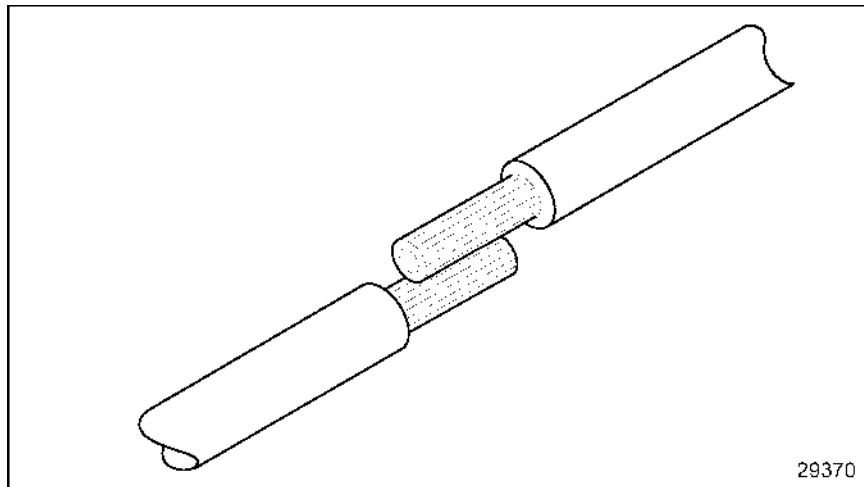

Figure 3-51 **Positioning the Leads**
1. Position the leads, so one overlaps the other. See Figure 3-51.